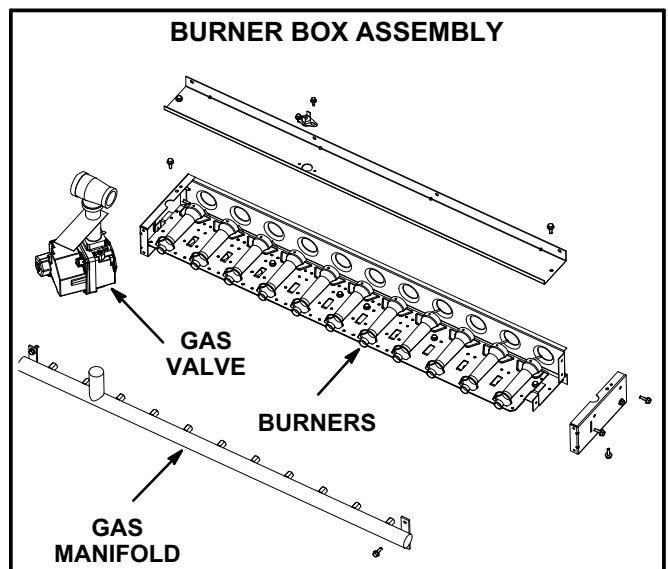

FIGURE 26
- 3- Remove screws securing burners to burner support and lift the individual burners or the entire burner assembly from the orifices. See figure 26. Clean as necessary.